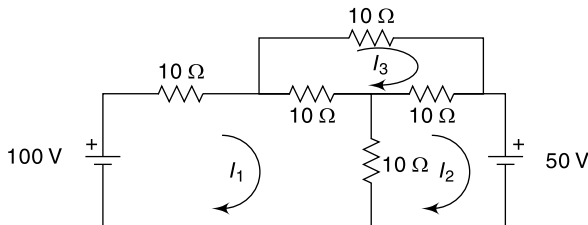

Fig. 4.53 Circuit of Ex. 4.37
4.37 Find the mesh currents in Fig. 4.53 using mesh current method.